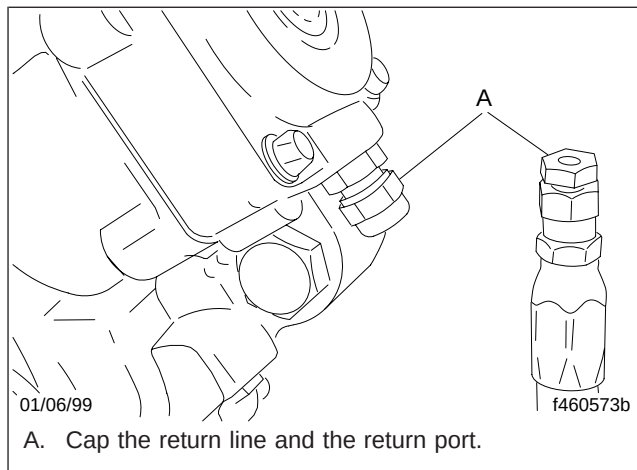

Fig. 1, Disconnected Return Line
2. Disconnect the return line from the steering gear and plug the line. See Fig. 1. Cap the return port of the steering gear with a high pressure fitting.